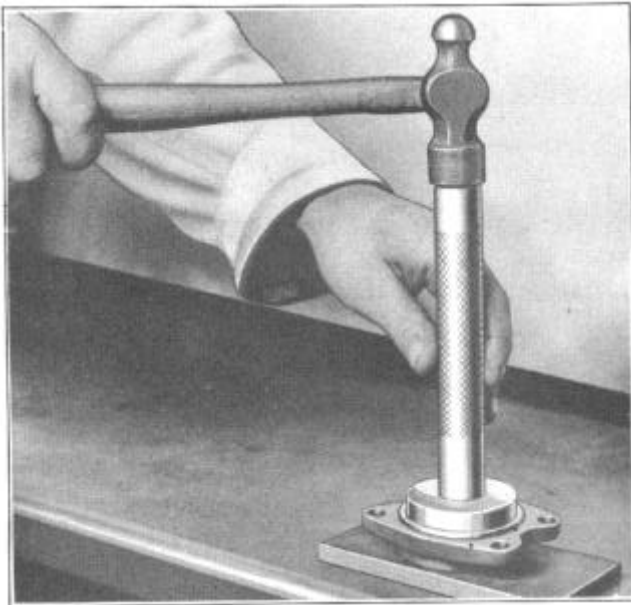

FIGURE 12
8. Remove wheel bearing adjusting cap oil seal, install a new seal using tool J-2159 as shown in Figure 12.